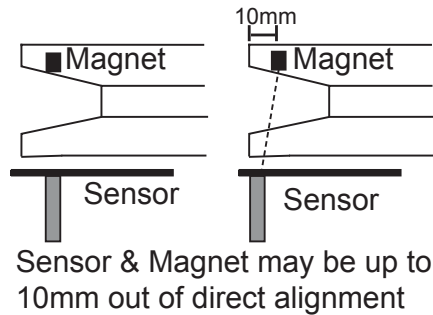
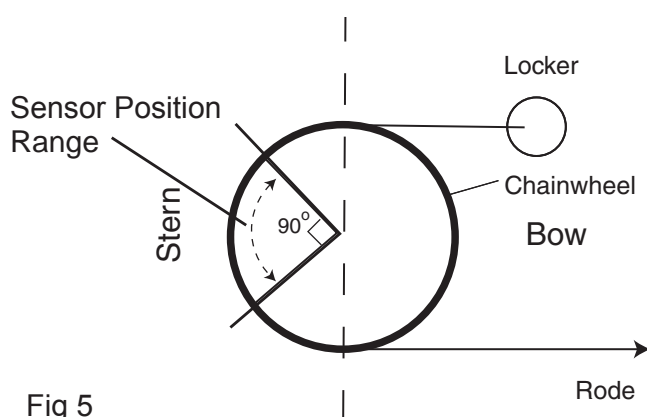

Fig 3
Fig 5
**Sensor Position:** The sensor must be fitted into the deckplate within the sensor position range at the stern end of the windlass (See Fig 5). It must also be aligned with the magnet so that the rode passes between the sensor and the magnet. The centre of the magnet and the centre of the sensor may be up to 10mm out of direct alignment. (See Fig 3). The gap between the sensor and magnet must be as per the table below.